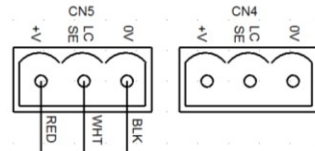

Figure 4- Tri-Tronics® wiring
- CN4 and CN5 should be wired as in Figure 4- Tri-Tronics® wiring